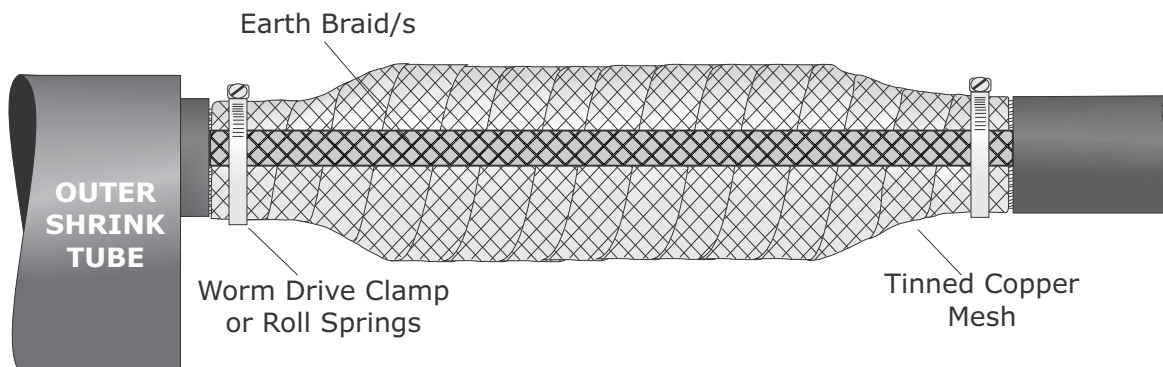

Fig 6
7. Wrap the tinned copper mesh tightly around the joint with 50% overlap and extend onto the armours or braid screen at both ends. Lay the earth braid/s across the joint and use the worm drive clamps (or roll springs) to make a firm connection to the armour supporting ring as shown in Fig 6.